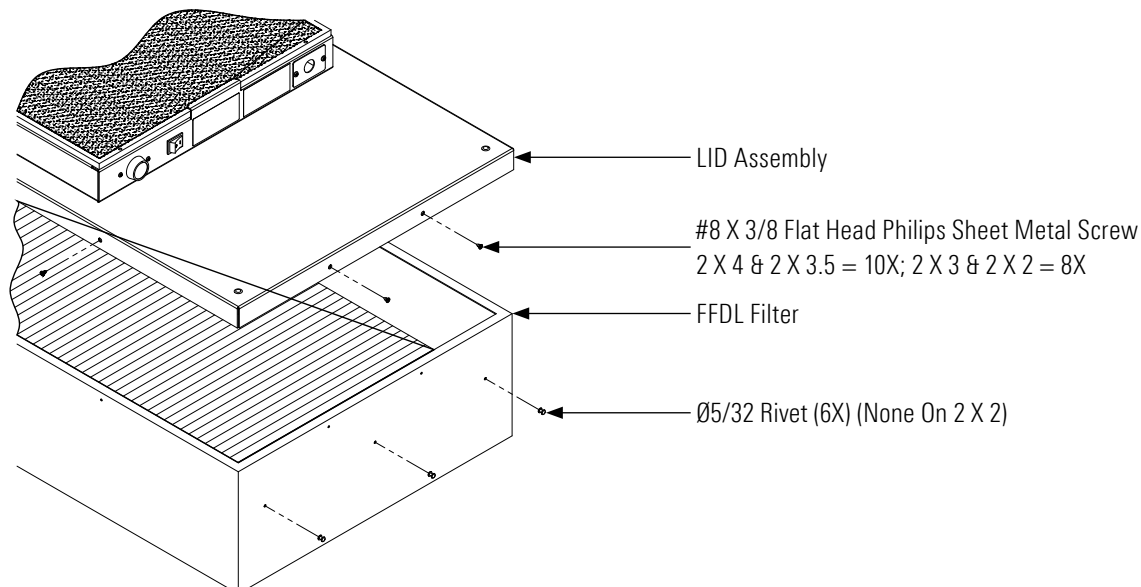

FIGURE 6: FFDL FILTER REPLACEMENT
**Step 3.** Lift the lid assembly off the HEPA/ULPA filter. (See Figure 6.) Discard the used filter as per requirements of the applicable regulations.